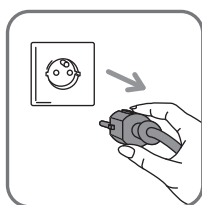

fig.2
- Before filling the water tank, unplug the iron **fig.2**.
Unplug the iron. **fig.2** Pour away remaining water **fig.12**.